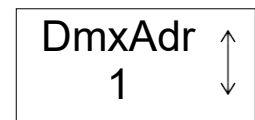

Figure 15: DMX Address
Step 3. As illustrated in **Figure 15**, LCD display will show "DMXAdr" (with a number underneath), press ENTER button.